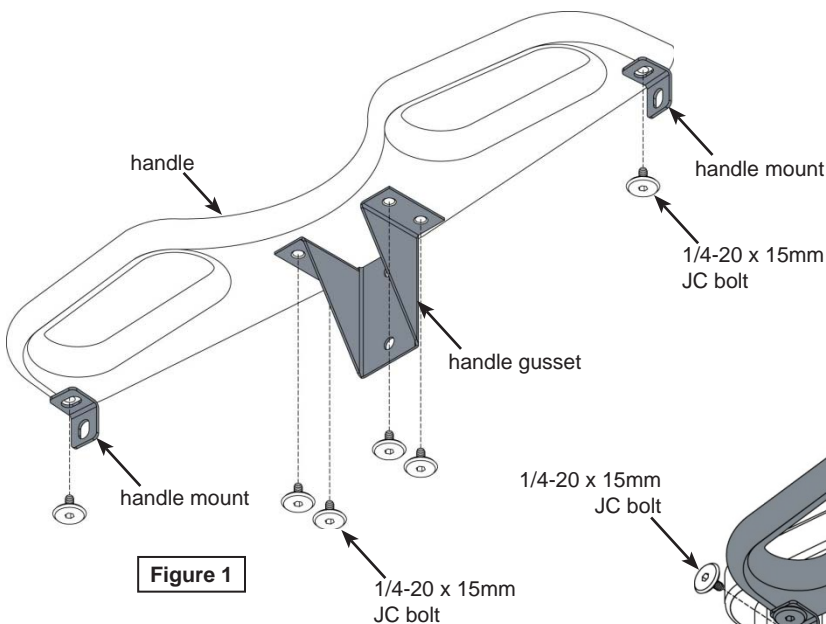

Figure 1
- A. Attach the handle gusset and handle mounts to the bottom of the handle using 1/4-20 x 15mm JC Bolts as shown in **Figure 1**. Do not tighten bolts completely.